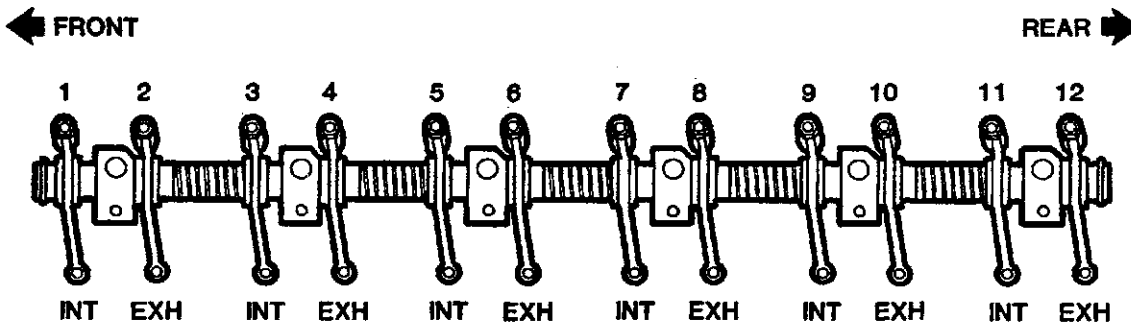

**Figure 4.72. Tighten Valve Adjustment Screw Lock Nut**
- c. Tighten the lock nut once the valve adjustment is set. Remove the feeler gauge. Refer to **Figure 4.72**.